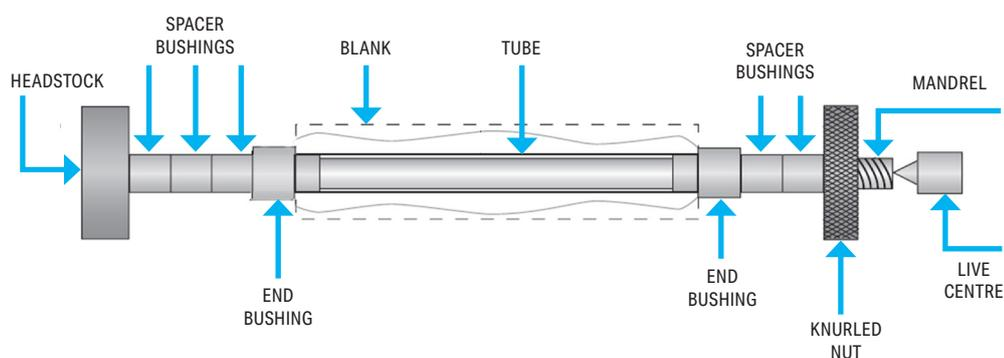

Fig. 1
1. Place the bushings and blank onto the mandrel according to figure 1.